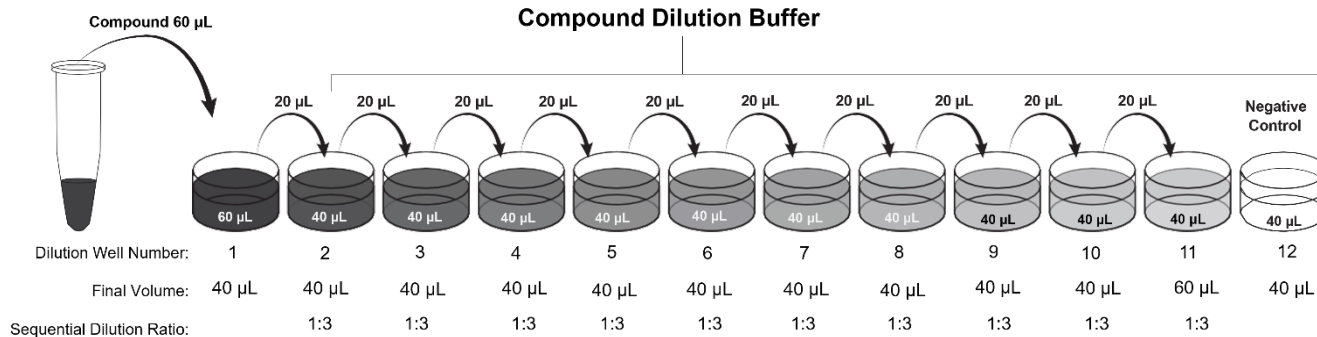

Figure 5. Compound serial dilutions - Agonist
- d. Add 60 μ L of the highest concentration of compound to well number 1 (Figure 5).